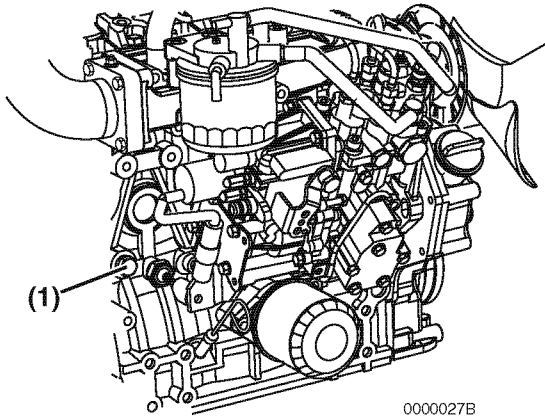

Figure 20
- On models not equipped with an oil cooler, remove the coolant drain plug (**Figure 20, (1)**) from the engine block.